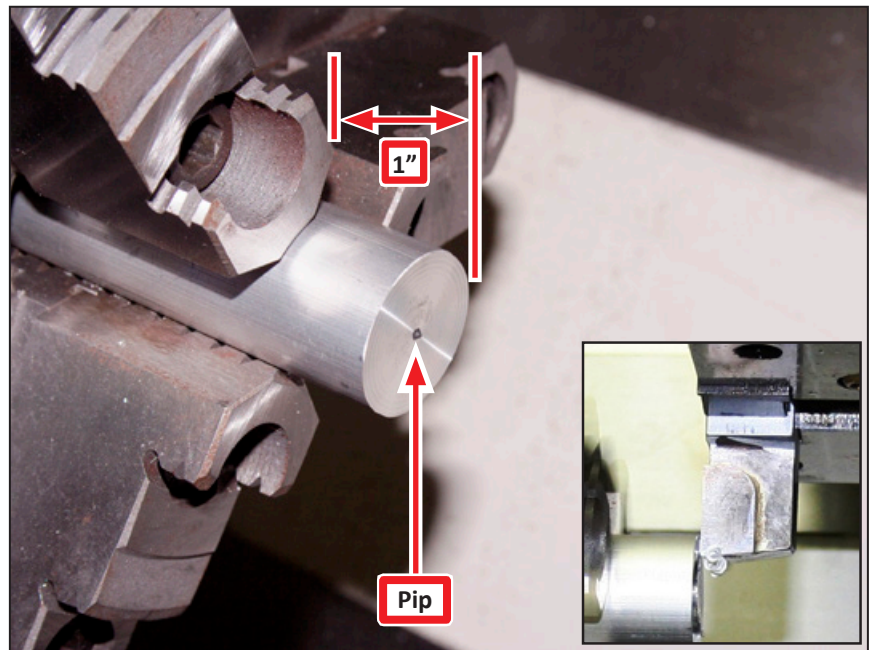

Figure 29
6. Insert an aluminium Test Piece (included) into the lathe spindle, leaving 1 inch protruding; tighten the spindle (see **Figure 29**).
7. Position the tool in an upward facing orientation (see **Figure 29 inset**).
8. Face the Test Piece at 500 RPM with the spindle in reverse (rotating clockwise) until a pip forms at the center of the piece (see **Figure 29**).